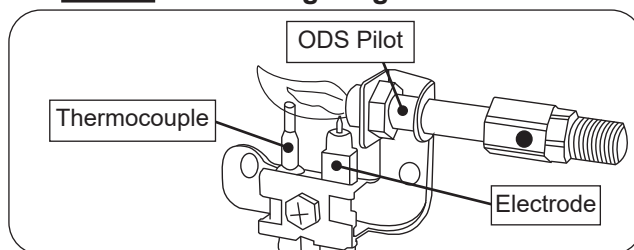

Fig. 25-2 ODS Pilot assembly detail
3. Place the ON/OFF switch in the **ON (I)** position.
4. Locate the pilot assembly toward the center of the unit, near the main burner (see Fig. 25-2).